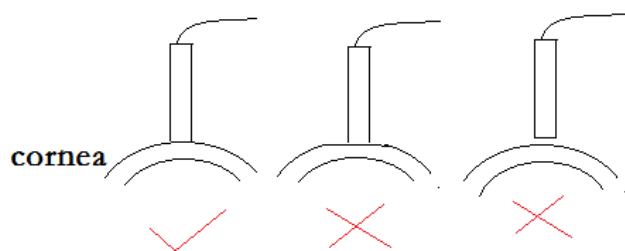

图2
b. Contact mode , probe need to be placed on cornea gently, pressing in or out of the corneal apex will cause data inaccurate (figure 2).
Note: In corneal thickness measurement shouldn't press in or out of corneal surface when contacted with cornea, like A-scan mode figure 2 shows.